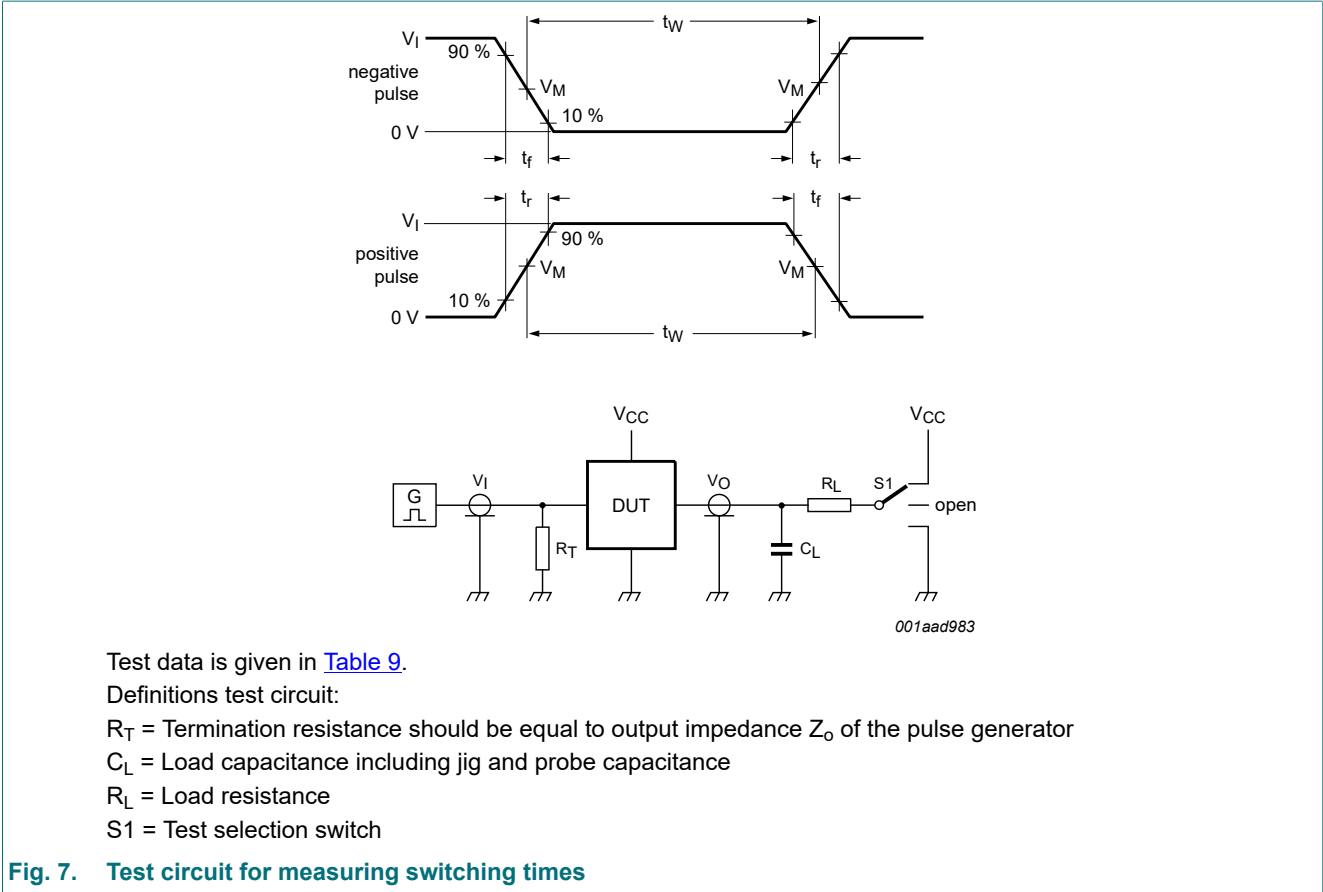

Fig. 7. Test circuit for measuring switching times
*GND = 0 V; CL = 50 pF; for test circuit see Fig. 7.*